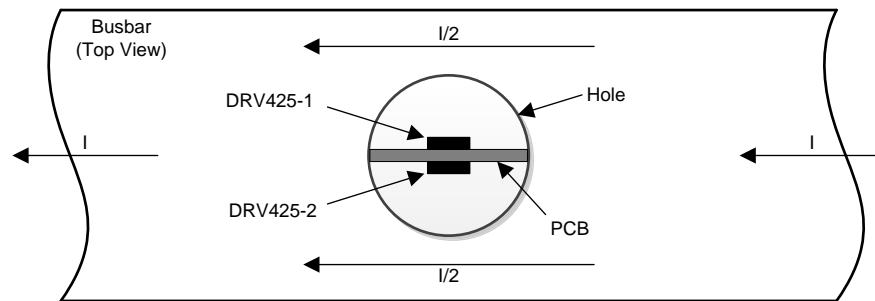
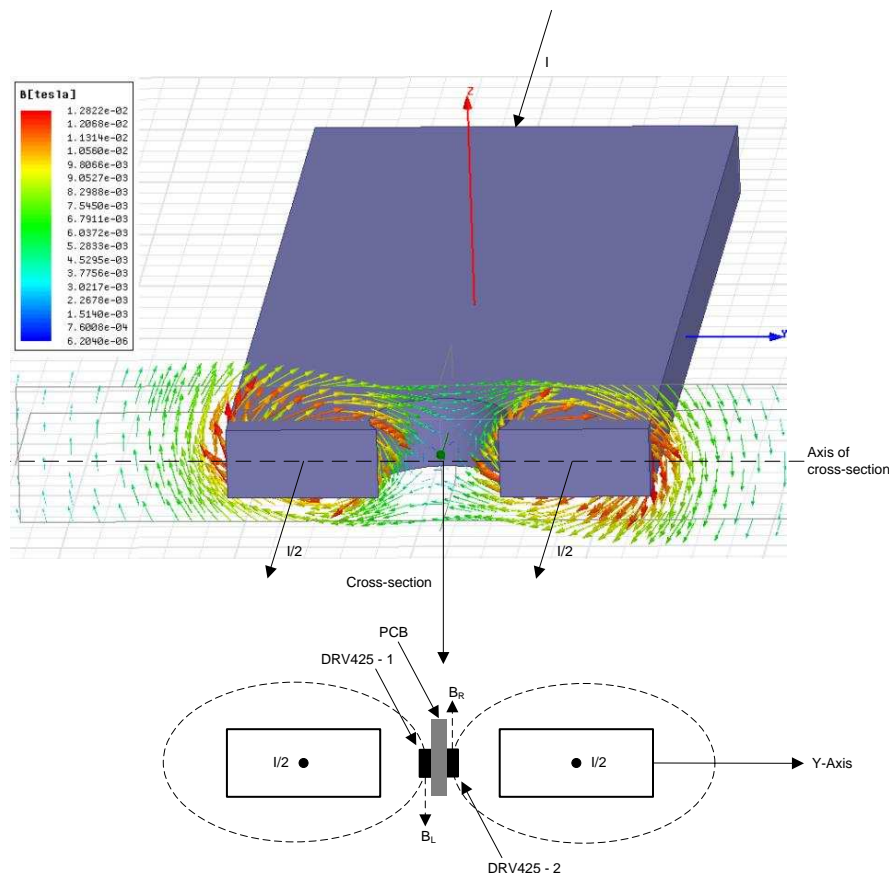

图 71. DRV425-Based Busbar Current Sensing
图 72. Magnetic Field Distribution Inside a Busbar Hole
图 71 shows an alternative approach with two DRV425 devices. If a hole is drilled in the middle of the busbar, the current is split in two equal parts that generate magnetic field gradients with opposite directions inside the hole. These magnetic fields are termed B_R and B_L in 图 72. The opposite fields cancel each other out in the middle of the hole. The high sensitivity and linearity of two DRV425 devices positioned at the same distance from the middle of the hole allow the small opposite fields to be sensed and the current measured with high-accuracy levels. The differential measurement rejects outside fields that generate a common-mode error that is subtracted at the output.
2. Apply current through the busbar and move the PCB along the y-axis in the busbar hole, as shown in 图 72. The PCB is in the center of the hole if $V_{CM} = V_{OFFSET}$.